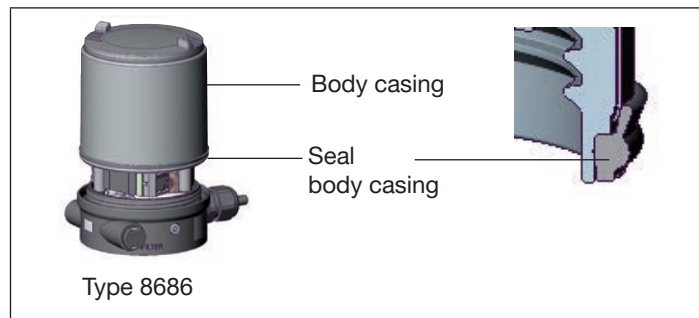

Fig. 34: Position of the seal in the body casing
- Check that the seal is correctly positioned in the transparent cap / body casing (see “Fig. 34”).